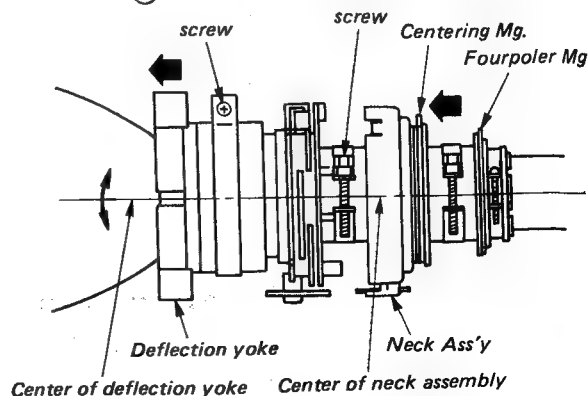

Fig. 6
3. Set the centering Mg mounted on the neck ass'y (RGB) to 0 magnetic field. (See Fig. 6.)
- ① Slide deflection yoke forward as far as it will go.
- ② Side neck assembly to touch the deflection yoke.